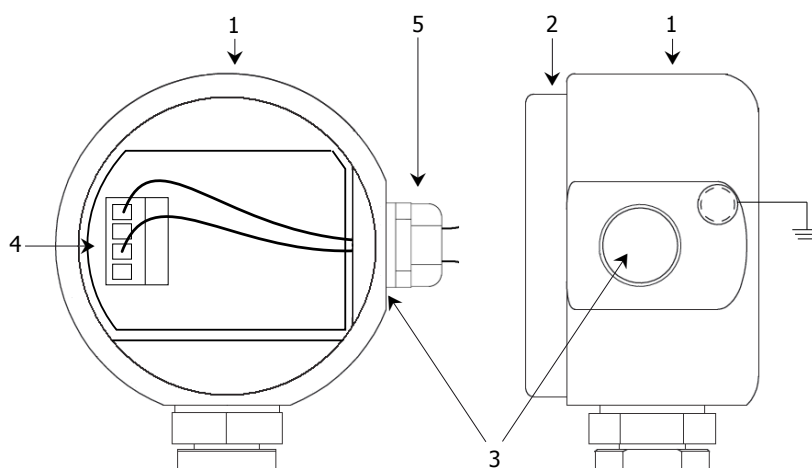

Figure 17 *Dew-Point Transmitter Housing*
- b. Cable connection to the dew-point transmitter is made via the terminal block (4) (see *Figure 17*). Remove the terminal housing lid (2) to access.